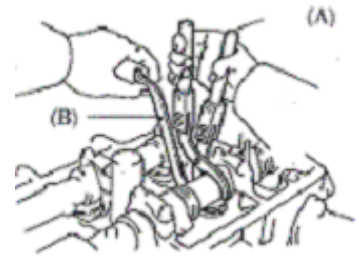

Figure 19
- (4) Alternatively press valve tappet with the special tool (A) (B). Check valve clearance. See (Figure 19).